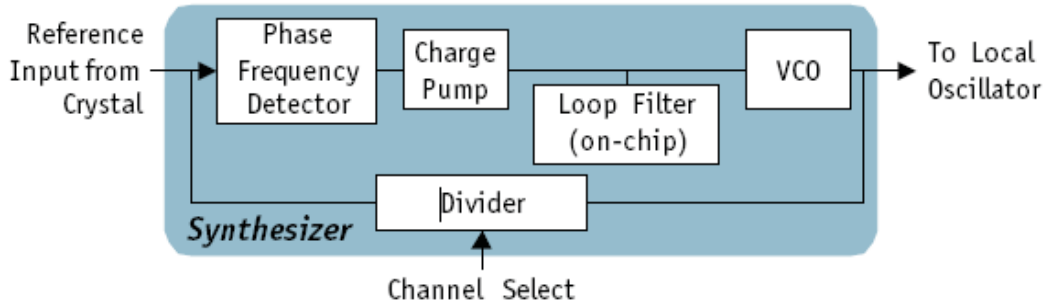

Figure 2. Radio Synthesizer Block Diagram
The radio supports an on-chip synthesizer to generate local oscillator (LO) frequencies for the receiver and transmitter mixers. Figure 2 shows the synthesizer topology.